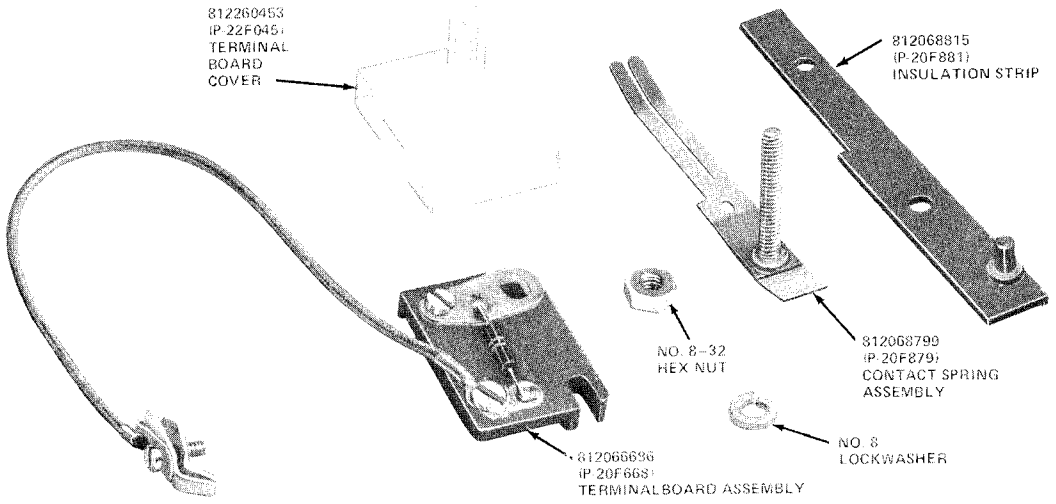

Fig. 1—D-180042 Kit of Parts
- Revise Fig. 1
- Revise paragraphs 3.04(10) and 3.05(8)
- (a) One D-180042 Kit of Parts (Fig. 1) is required to modify each telephone set housing. The kit consists of a terminal board assembly, contact spring assembly with hex nut and a lockwasher, an insulation strip, and a terminal board cover.